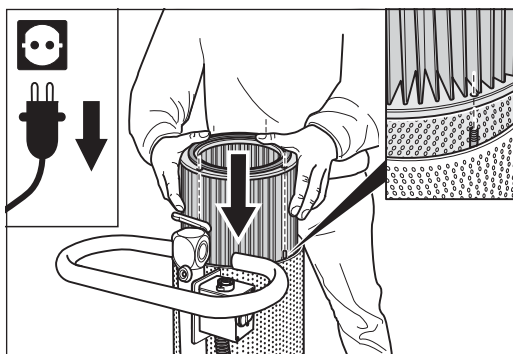

Fig. 71 Slide the filter cartridge onto the four screws from above.
- 2 Slide the filter cartridge onto the four screws from above (fig. 71). **Make sure not to damage the filter cartridge!** The dust separator system will not work properly otherwise.